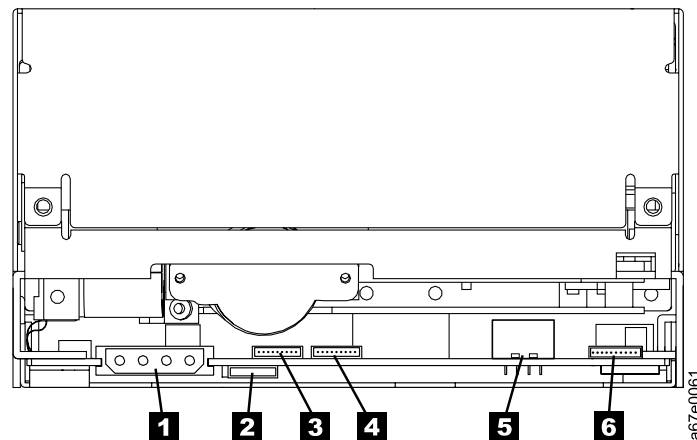

Figure 29. Rear view of the IBM TotalStorage LTO Ultrium 2 Tape Drive Model T400F (Fibre Channel drive)
4. Disconnect the internal power cable from the power connector (see **1** in Figure 29).